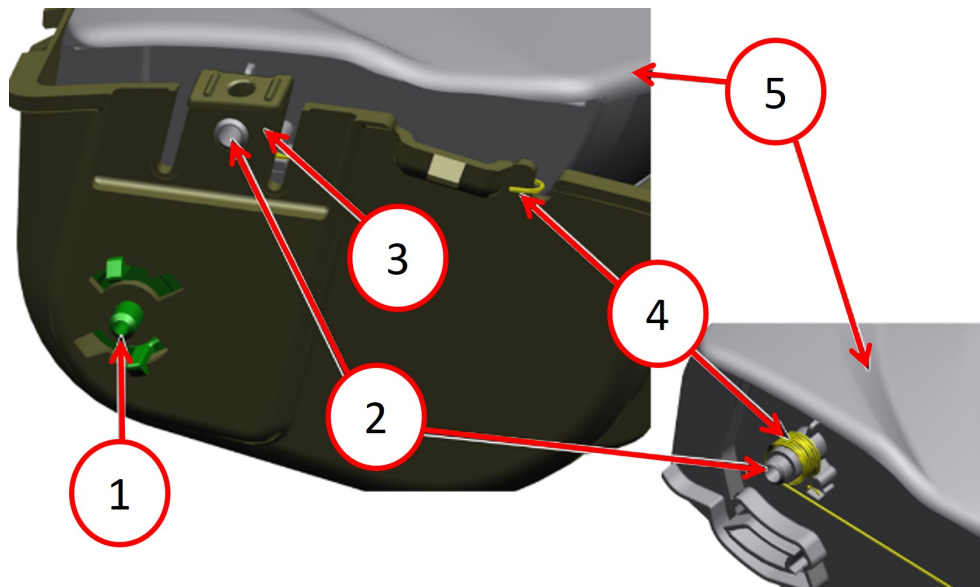

Fig. 2
3. Disengage the sunglass storage bin spring from the backplate (Fig. 2) .
4. Disengage the sunglass storage bin pivot pins and remove the sunglass bin from the backplate (Fig. 2) . **Discard the sunglass storage bin.**
6. Install the new sunglass storage bin by engaging the sunglass storage bin pivot pins into the backplate (Fig. 2) .
7. Install the sunglass storage bin spring on the backplate (Fig. 2) .